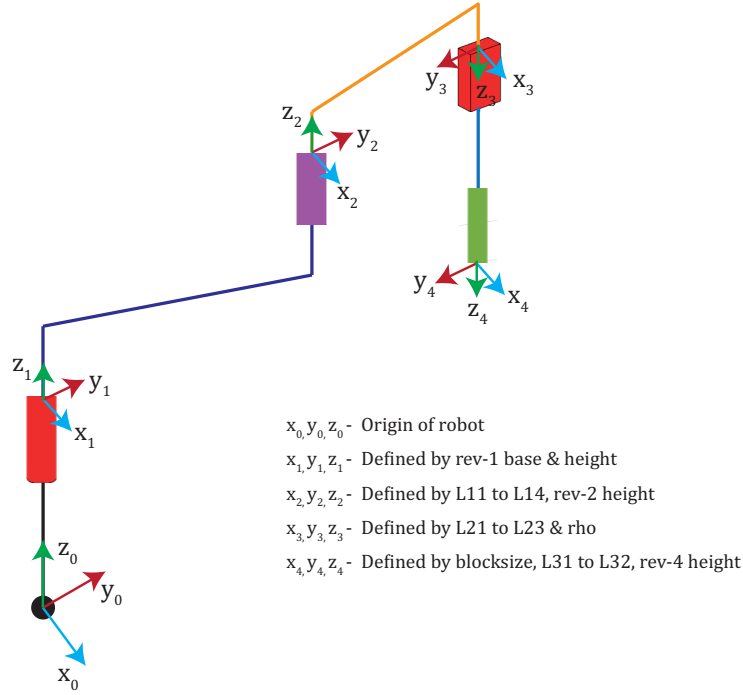

Figure 2: The SCARA robot generated by MATLAB file **Scara3D.m** with the offsets
3. Use the function **DenaHart.m** to solve the Direct Kinematics Problem (DKP) for the robot end-effector. What are the X,Y and Z values of the end-effector at the home-pose. Refer to Figure 2 and compare it with MATLAB file **Scara3D.m** to identify the numerical values of link lengths ( $d$ ), the link offsets ( $r$ ), the joint variables ( $\theta$ ) and the link twist ( $\alpha$ ).